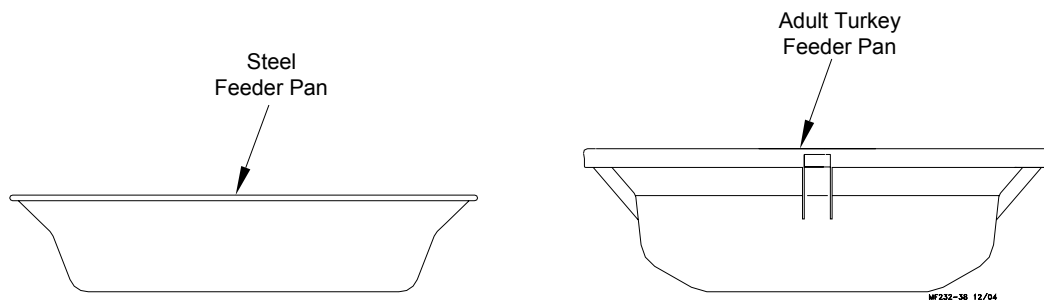

Figure 21. Feeder Pans
2. Determine which feeder pan (Adult Turkey or Steel) is to be installed, see **figure 21**.